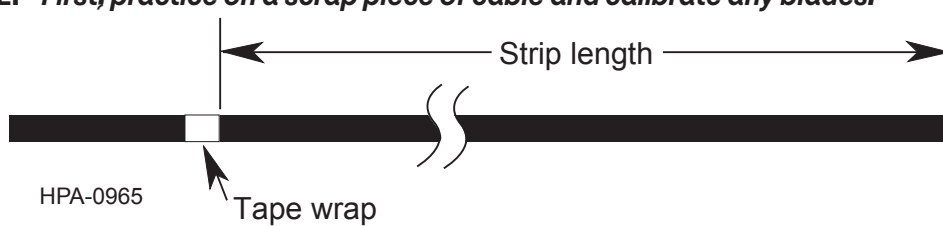

Figure 4
Step 1: Determine the proper sheath removal length for the hardware being used. Mark a point at this distance from the end of the cable with a wrap of tape (Figure 4).